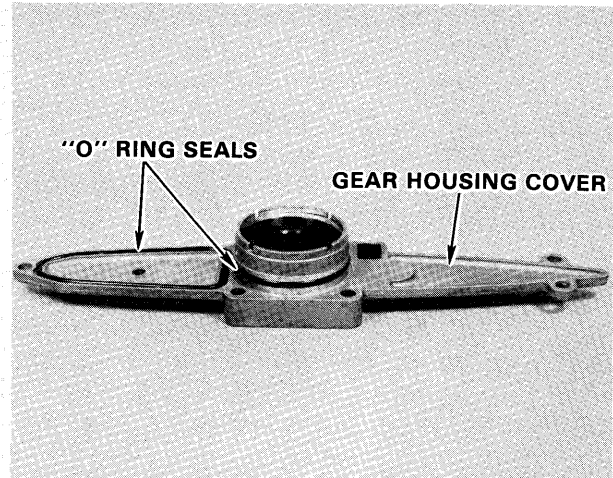

Figure 7—Location of "O" Ring Seals
- A. Place "O" ring seals on gear housing cover as shown in figure 7.